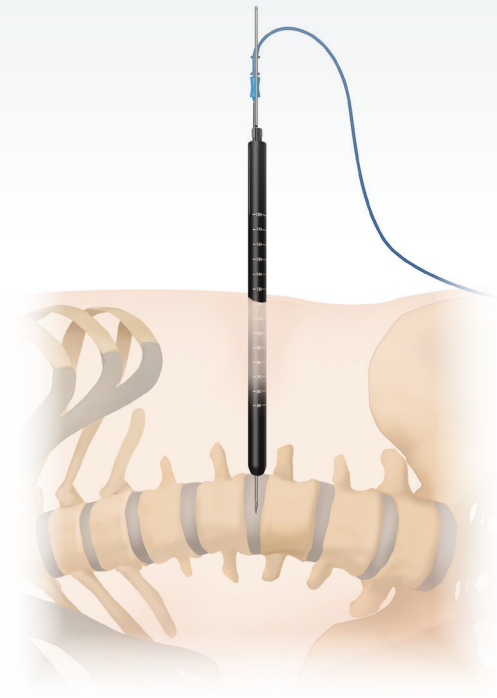

Figure 16
- Use a slow rotating motion to ensure the dilator has advanced all the way through the psoas and is down against the disc (**Figure 16**).